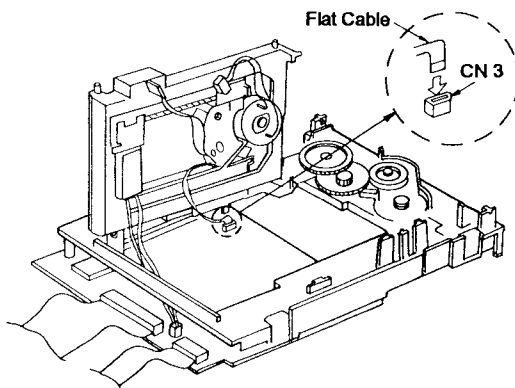

Figure 29
- (8) Connect the flat cable to CN 3 as shown in Figure 29.